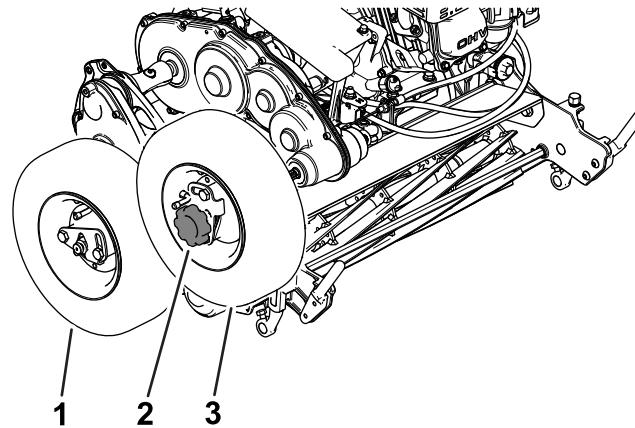

**Figure 10**
- **Drum set to the HIGH position:** slide the bracket over the shaft with the longer prong facing toward the machine (as shown in Figure 10).